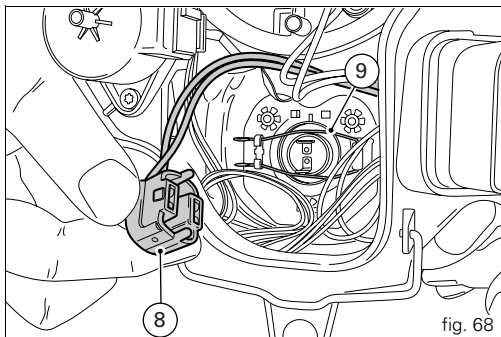

fig. 68
Disconnect the wiring connector (8) from the high beam bulb (fig. 68)